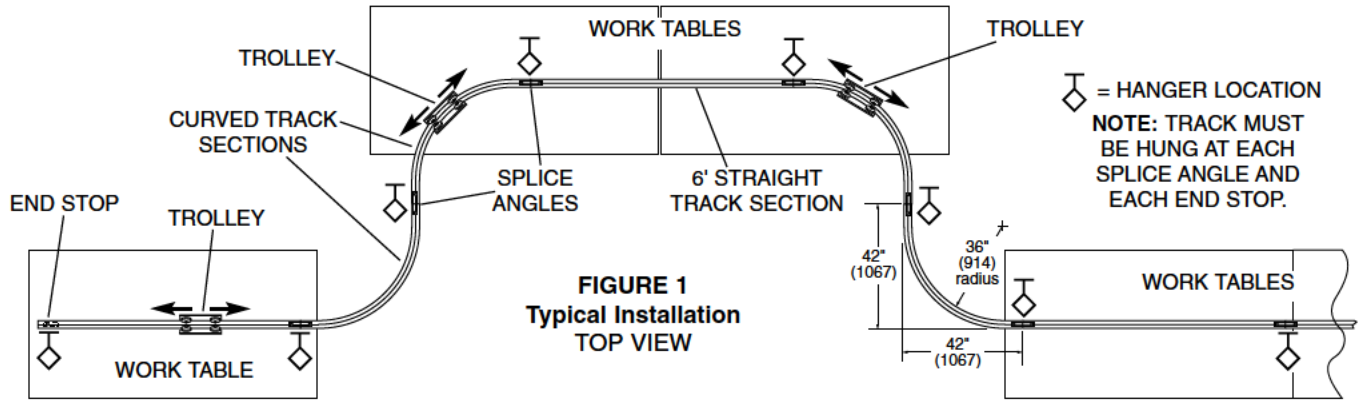
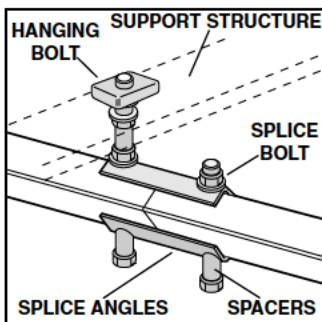

FIGURE 1
FIGURE 2
NOTE: Each track section must be supported at both ends. Splice angle kits join and align two track sections and provide a bolt for hanging track. End stop kits, which include a hanging bolt, are used at each end of the system. They provide for track hanging and also stop the trolleys. See Figure 1, above, and Figures 2 & 3, below.
STEP 1- Lay out track sections on floor beneath area where track is to be hung. All curved sections are 90° and have a 36"(914mm) radius but include a 6"(152mm) straight section making their overall length 42"(1067mm). Check to make sure there is hanging structure above each joint and at both ends of the system. See Figure 1.
STEP 2- Hang track, assembling as you go, using hanging bolts in splice angle kits or end stop kits. See Figures 2 and 3. To facilitate trolley installation, do not permanently install end stop or hang track at one end of system. Temporarily support end of track until after trolley installation. **NOTE:** If necessary to reach support structure, substitute longer 5/16-18 bolts or threaded rod for 3.5" long bolts provided.
STEP 1- Assemble support structures as shown in Figure 1.
A. Put 5/16" x 3.5" bolt through V-groove spacer, then through curved rail from under side. Secure bolt with flat washer, split lock washer and 5/16" hex nut. Tighten. See Figure 2 .
B. Thread 5/16" hex nuts, 5/16" split lock washers, 5/16" flat washers, 3/8" flat washers, and universal track nuts onto bolts. Do not tighten. See Figure 2.
STEP 5. Attach end stops using 5/16" x 2.5" bolts. See Figure 2.